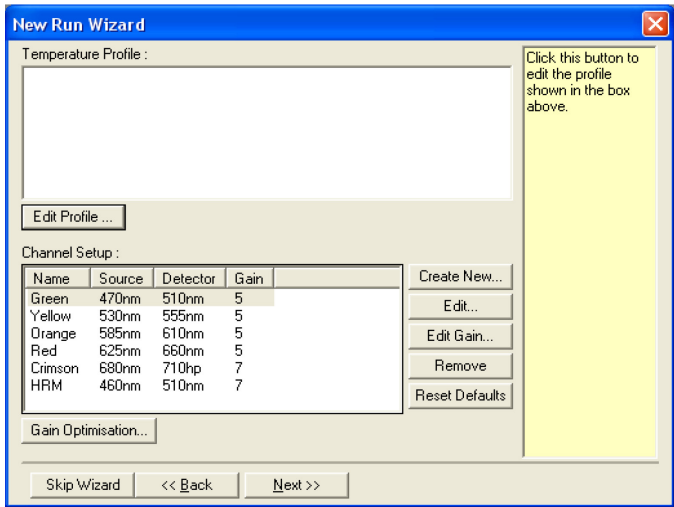

Figure 22. “Edit Profile” in the “New Run Wizard.”
5. Click “Edit Profile” in the “New Run Wizard” dialog box (Figure 22) and check the run parameters according to the following steps: